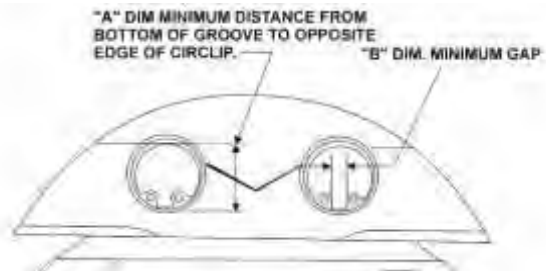

Figure 65
- (8) Use the specified Lycoming gage set identified in the latest revision of Service Instruction No. SI-1535. Make sure the circlips are installed correctly on the counterweight (Figure 64). Figure 65 shows the location of the A and B dimensions. Dimension A is the diameter of the gage. Dimension B is the width of the gage.
- (9) Make sure the circlip seating is correct (Figure 65) as follows: